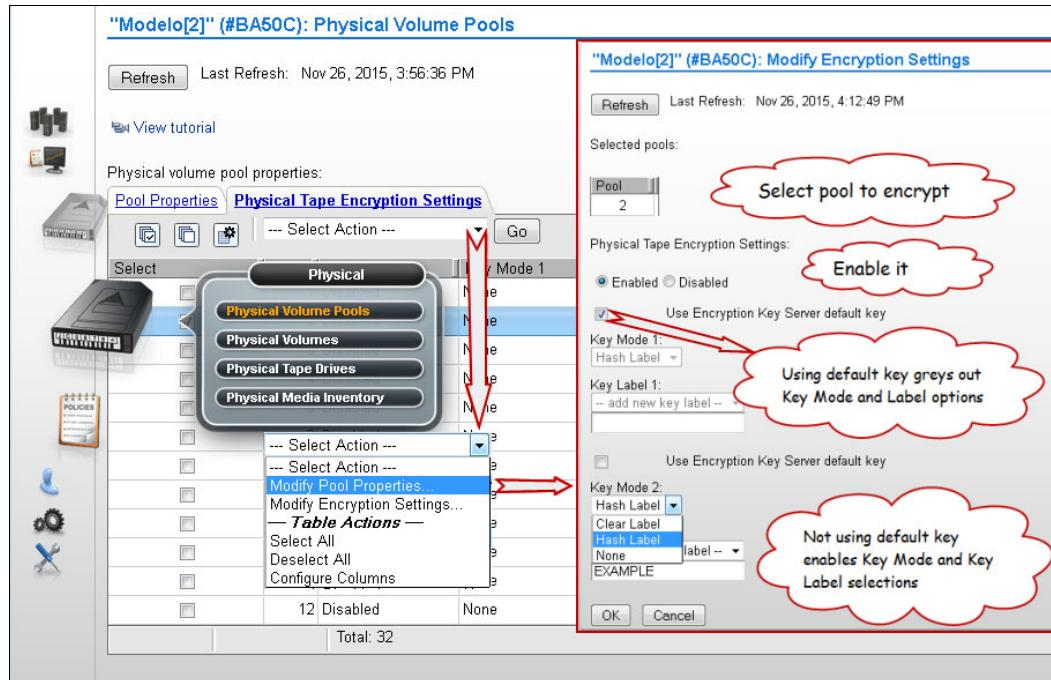

Figure 11-21 Modify encryption settings parameters
To modify encryption settings for one or more physical volume pools, complete the following steps (Figure 11-21 on page 593 shows this sequence). For more information, see “Physical Volume Pools” on page 460:
5. Click **Go** to open the Modify Encryption Settings window (see Figure 11-21).